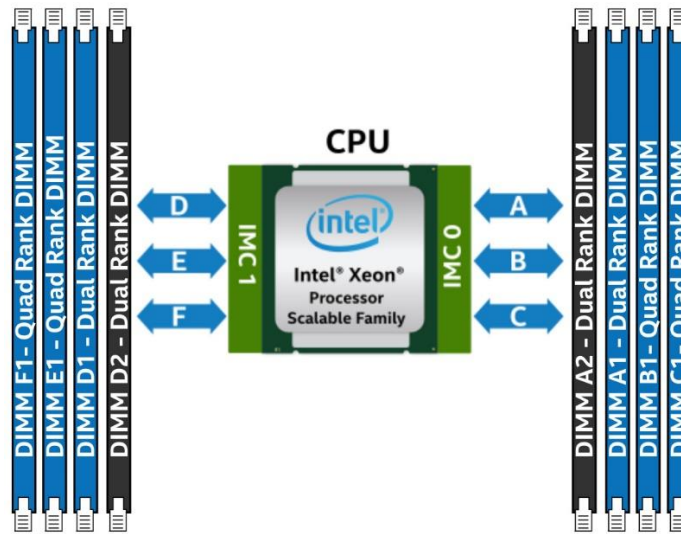

Figure 23. DIMM population example for memory rank sparing
- Rank sparing mode is only possible when all channels that are populated with memory meet the requirement of having at least two single rank or dual rank DIMMs installed or at least one QR DIMM installed on each populated channel. A basic configuration example for memory rank sparing is shown in Figure 23.